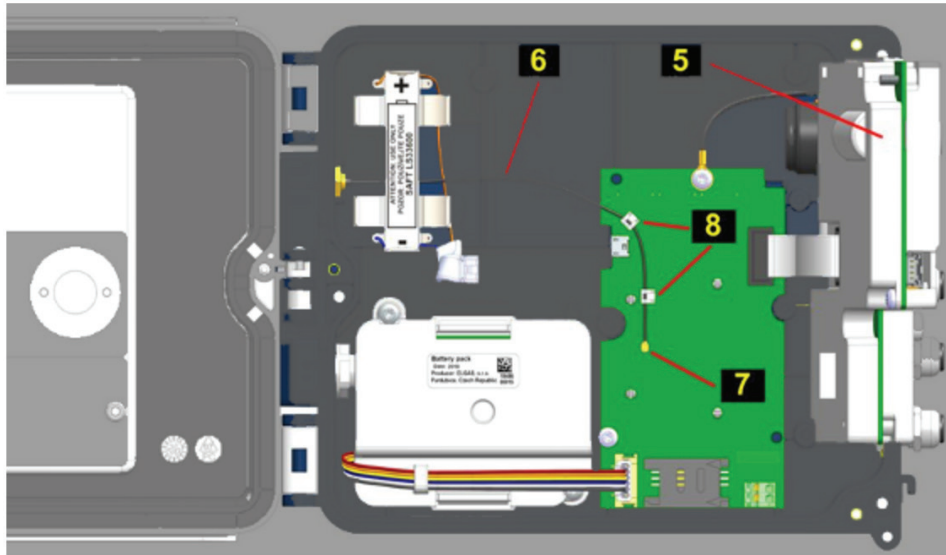

Fig. 39 Disconnecting the antenna
- Flip the EVC module out to a vertical position (Fig. 39, position **5**).
3. Disconnecting the Antenna (Fig. 39)
Insert the end of antenna cable 1 with the miniature connector (see Fig. 39, position 7) from the left side under the battery holder of the device (from the side of the device towards the modem board). The panel connector 2 has a sealing O-ring 3 fitted to provide the required instrument protection. Push the panel connector of the antenna cable with the O-ring fitted through the hole in the side of the cabinet from the inside and fix it from the outside with the fixing nut 5 with the fan metal washer 4 (supplied with the cable). Tighten the nut with feeling (tightening torque 0.45 Nm) with the mounting side wrench No. 8.